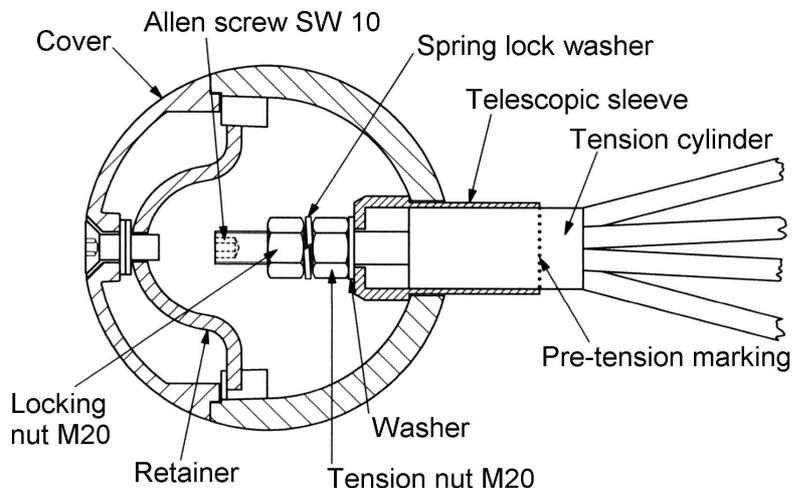
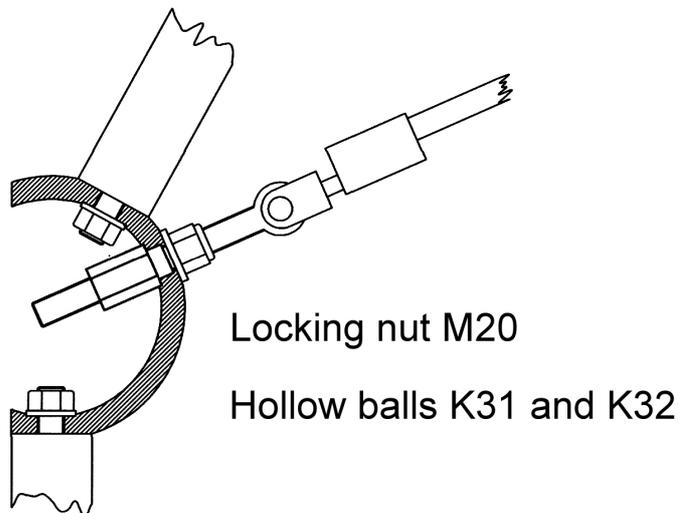

figure 16
figure 17
Preassembly of the space net begins by screwing the tension systems into the hollow balls of **K30** (figures 9.1; 9.2, 10 and 16). In doing this, the tensioning cylinder is inserted into the telescopic sleeve with the M20 bolt and mounted from the inside with the tension nut M20 (Size 32) with approximately 5 turns of the thread. After this, the tension screws for hollow balls **K31 and K32** (figures 9.1; 9.2 and 10) are made which also mount the tension rope via the fork screws (figure 17).
Firstly the aligned connection on the hollow ball **K29** is to be solidly secured. Tensioning of the space net begins on the hollow balls of **K31 and K32** which are screwed to the locking nut (figure 17) using the special spanner supplied. After doing this tensioning is made on **K30** hollow balls up to the marking (figure 16). Finally, the space net must be under a **tension having an even strength throughout**.
After tensioning, the tension nuts are to be locked on all **K30 knot points** using the locked nuts and spring lock washer provided (M20 Size 32). **In order to tighten the locking nut, the Allen key Size 10 must be inserted into the M20 screw and held (Figure 16).** The locking nuts Size 30 (**figure 17**) are to be inspected once again to ensure that they are solidly secure at the **K31 and K32 knot points**. Finally all knot points from **K29 to K32** are to be closed by screwing the knots with the prepared covers via a clamping screw (**figure 16**). In doing this please ensure that the cover is positioned evenly so that our company logo is readable. Thank you.
- The first re-tensioning must be carried out after one to two weeks. Re-tensioning is made via the tension nuts (M 20) in the hollow balls. Firstly the **balls K31 and K32** are re-tensioned. After removing the cover using an Allen key Size 10 and loosening the locking nut M20 Size 30 (**figure 17**) on the outside of the ball, the inside tension nut Size 30 is re-tensioned with the box spanner. It is imperative that the **locking nuts** be solidly tightened **after re-tensioning**. After this, further re-tensioning is made at the **K30 knots** and should be carried out evenly. In doing this the inside locking nut M20 Size 32 is loosened after removing the cover and re-tensioned at the tension nut M20 Size 32 **beyond the pre-tension marking** using the special box spanner supplied. After re-tensioning, the tension nuts on the K30 knots must be **locked again** with the locking nuts. **Please note to the spring lock washer between the nuts.** In order to loosen and secure the tension nut and locking nut M20 Size 32, the bolt M20 can be held with an Allan key Size 10 (**figure 16**). Finally the open hollow ball is once again closed with the cover. Please ensure that the cover is placed evenly so that our company logo is readable. Thank you.
- Check the locking nuts (**figure 17**) to ensure solid seating at the **K31 and K32** hollow balls.